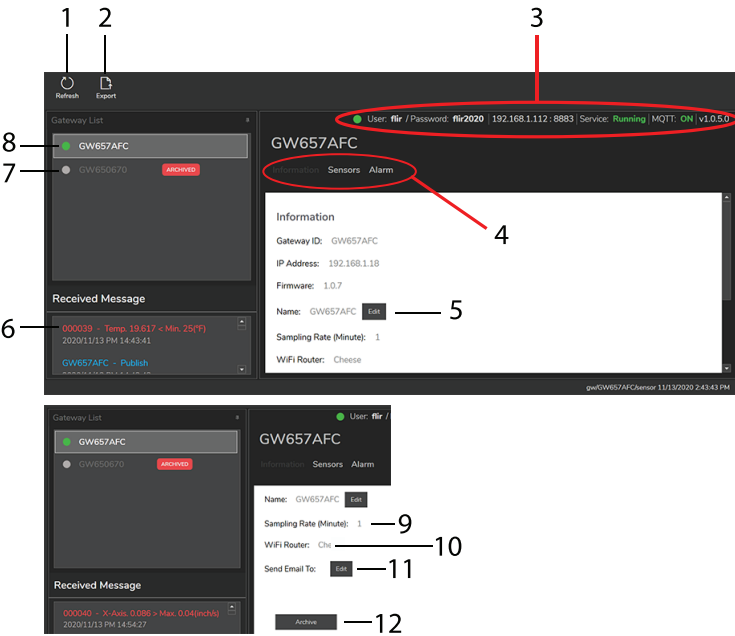
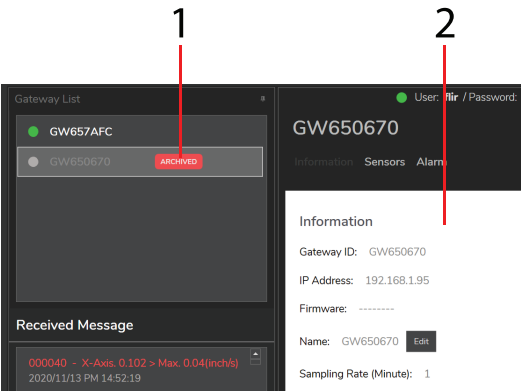

Figure 10.1 Windows App opening screen with Information tab selected.
Figure 10.10 Archived Gateway screen.
Refer to the call-out numbers in Figure 10.1, below, for the this numbered list.
4. Information, Sensors, and Alarm tabs. Click a tab to open. The Information tab is selected in Figure 10.1 below.
Configurations can be archived for future reference by clicking on ARCHIVE in the Information tab as shown at the start of this section in Figure 10.1. In Figure 10.10, below, the archive screen is shown when an archived configuration is selected.